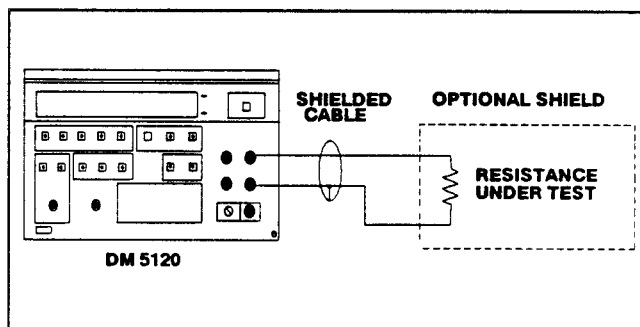
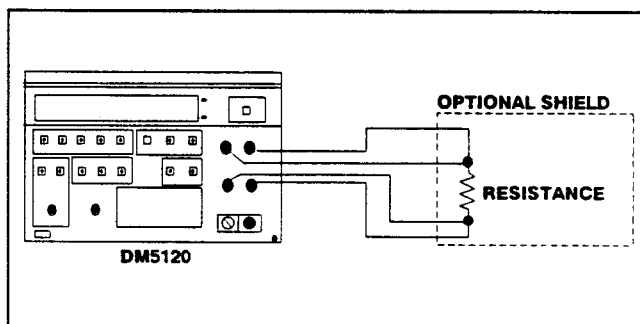

Fig. 2-6. Two-Terminal Resistance Measurements.
Fig. 2-7. Four-Terminal Resistance Measurements.
4. For 2-terminal measurements connect the resistance to the instrument as shown in Figure 2-6. For 4-terminal measurements connect the resistance to the instrument as shown in Figure 2-7.